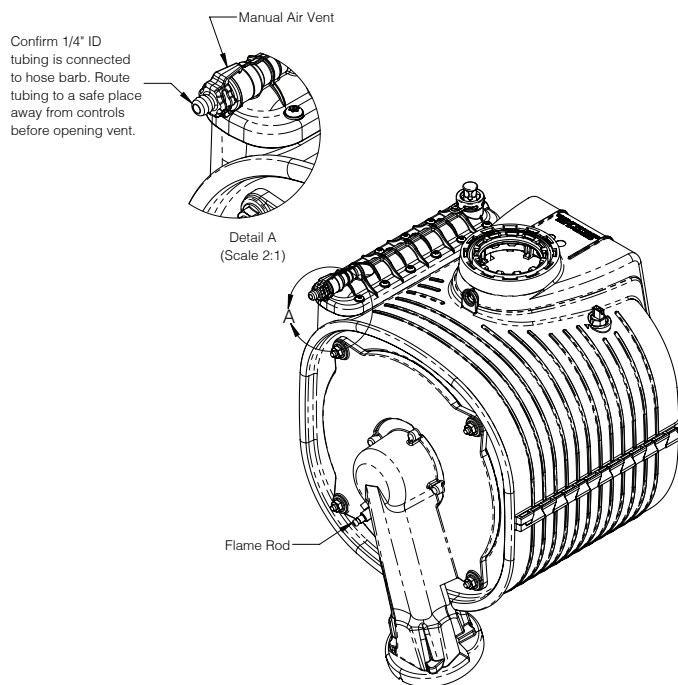

Figure 15-1: Manual Air Vent Location
5. Eliminate air in boiler by bleeding from heat exchanger manual air vent on top left side of heat exchanger (Figure 15-1).
- B. Measure carbon monoxide (CO) level after 5 minutes of operation above 50% firing rate. This can be done by providing DHW demand. Ensure door is sealed before taking combustion readings.
17. Perform a check of ignition safety shut-off device. With burner firing, carefully unplug black ignitor/flame sensor wire at burner door using a pair of insulated pliers (Figure 15-1). Burner should shut off immediately.